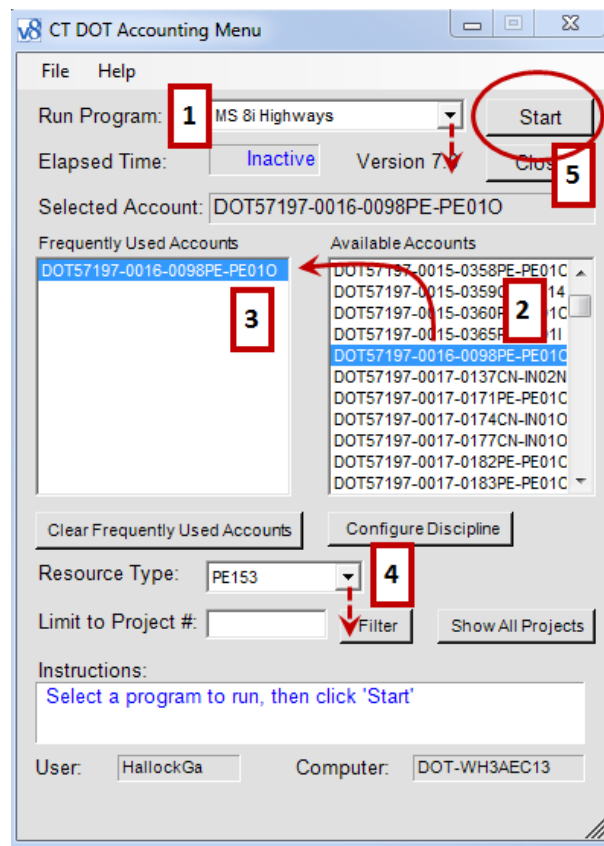

Figure 1 - Accounting Menu
2. Within the CT DOT Accounting Menu (Figure 1) select **Run Program:** (1), choose **MS 8i Highways**. Select the project number for your project from the **Available Accounts** (2) and then highlight it within the **Frequently Used Accounts** (3). Select the correct **Resource Type** (4) and click on **Start** (5) button.